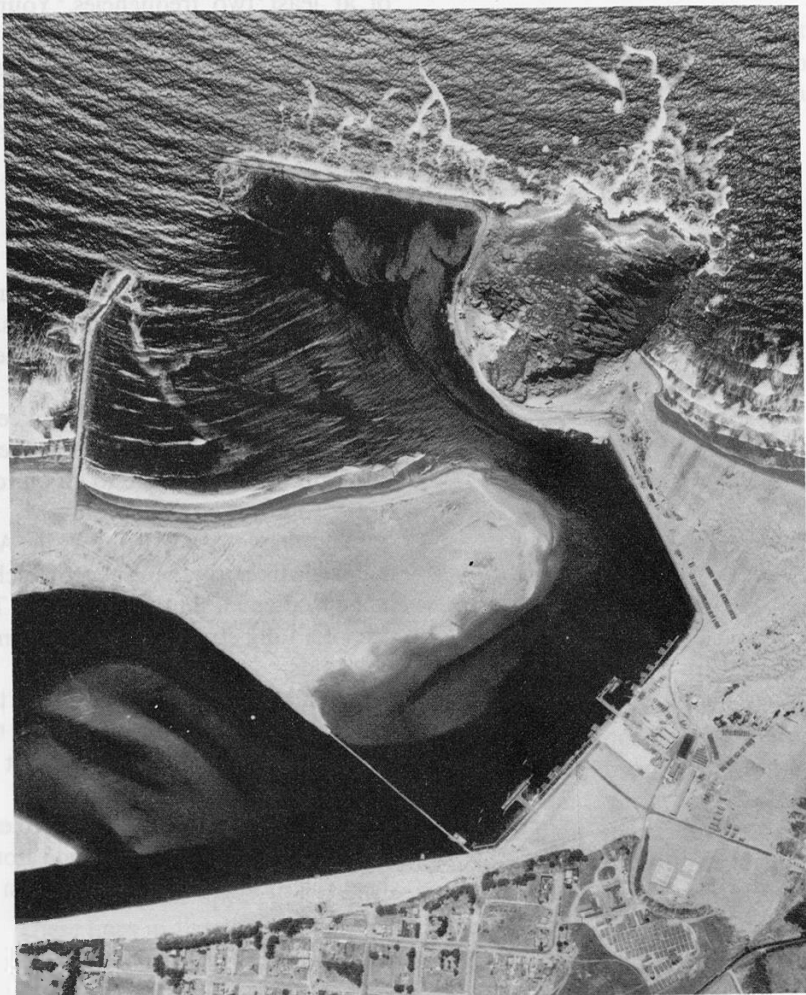

Figure J96
- 2(i)** Figure J96 is an aerial photograph of a narrow harbour mouth formed by two angled jetties, open to the sea.